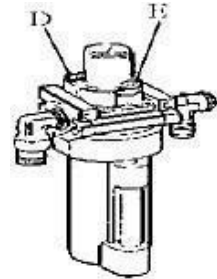

Fig 25
- 6) Continue inflating and checking the air pressure regularly until the pressure has reached the tire's recommended pressure (**Fig 25**).
- 4) Tighten the screw (**D**) which controls oil input with a minus screwdriver (**Fig 25**).